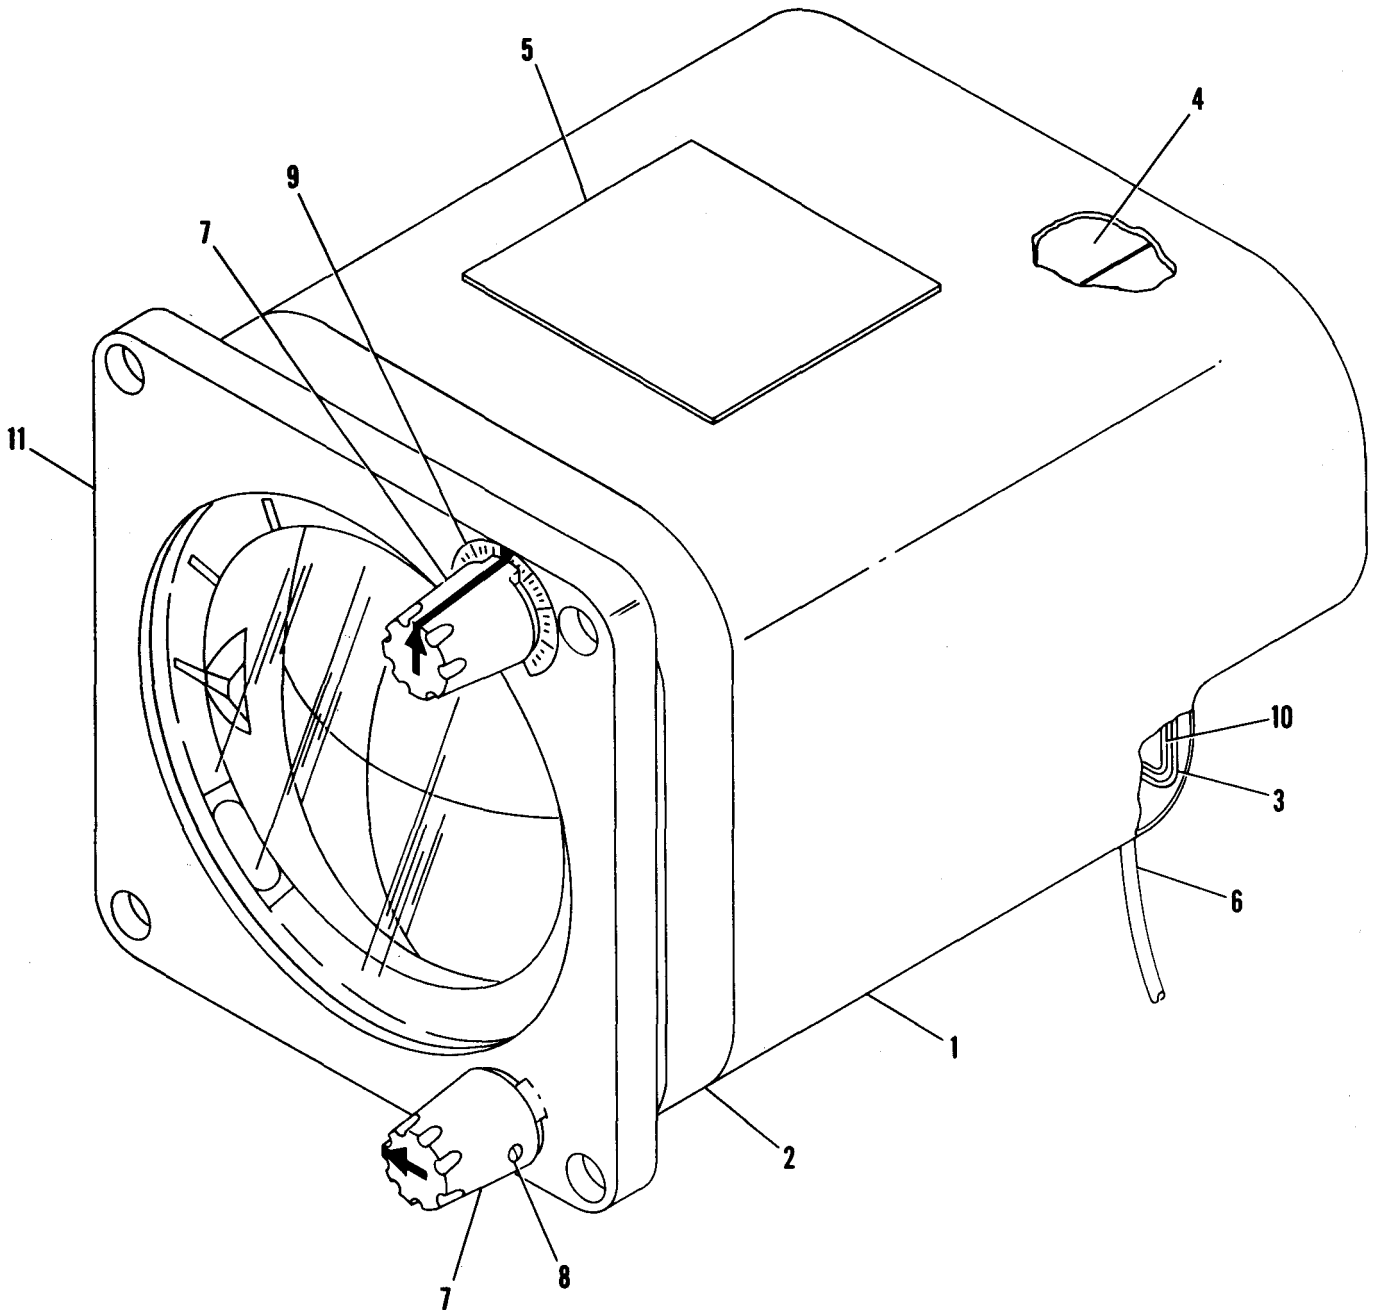

Figure 2-1. Remote Attitude Indicator.
- (1) Cut evacuation tube (6, fig. 2-1).
- (2) Loosen four setscrews (8) securing knobs (7) to indicator. Remove knobs.
- (8) Remove connector gasket (10).